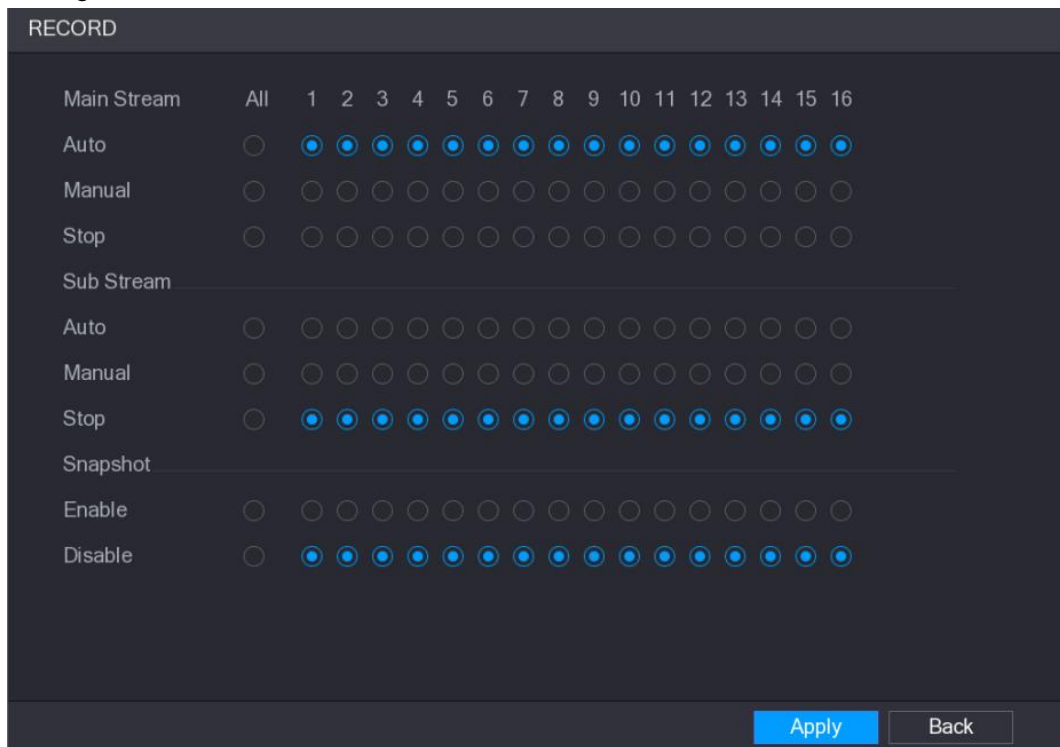

Figure 5-88
Step 1 Right-click on the live view screen, the shortcut menu is displayed. On the shortcut menu, select **Manual > Record Control**. The **RECORD** interface is displayed, see Figure 5-88.